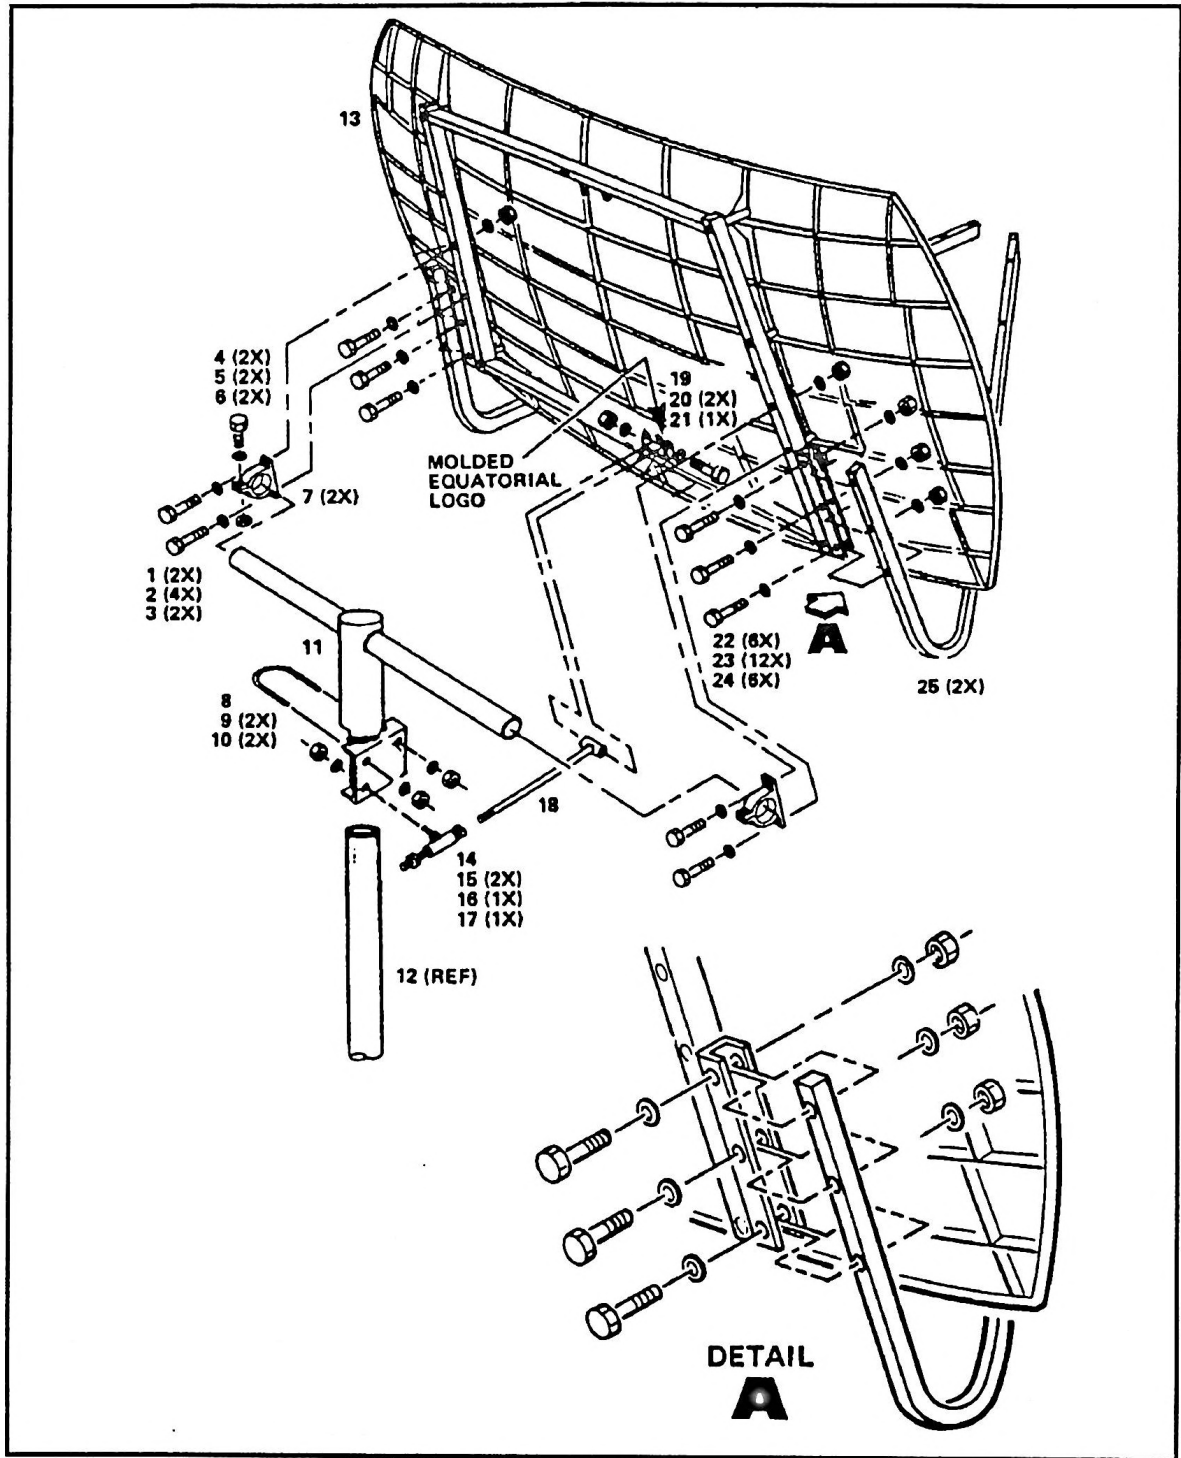

Figure 5-4. Reflector Assembly, Exploded View
Figure 5-4 is an exploded view of the antenna reflector assembly with booms. The components for the mount and the hardware required to mount the antenna are listed in Table 5-1.
3. Install "T" Mount. Place the "T" mount (Item 002) over the vertical pipe and hand tighten using the U-bolt and associated hardware as shown in Figure 5-4.
4. Remove the frame/reflector bolts labeled (A) in Figure 5-4.
5. Using the two bolts removed in step (4) above, secure the lower side of each pillow block (Item 003) to the frame/reflector. Then secure the upper side of each pillow block to the same frame using 3/8-inch bolts, washers, and nuts.
1. Mount the feed mounting plate, as shown in Figure 5-4, using 3/8-inch bolts. Before tightening the bolts, be sure the feed mounting plate is symmetrical on the booms.